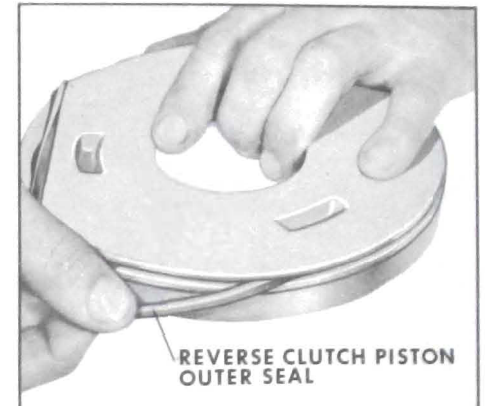

Figure 5-294
1. Lubricate with transmission oil and install reverse clutch piston outer seal. See Figure 5-294.